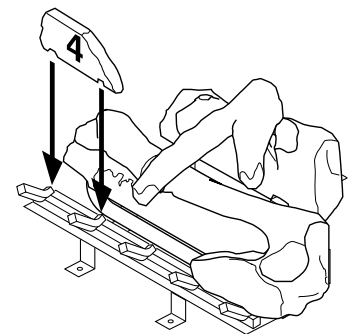

Figure 45 - Installing Log No. 4
5. Place log #4 (small log) onto the front left part of the grate making sure the notches fits over the prong of the grate. See Figure 45.